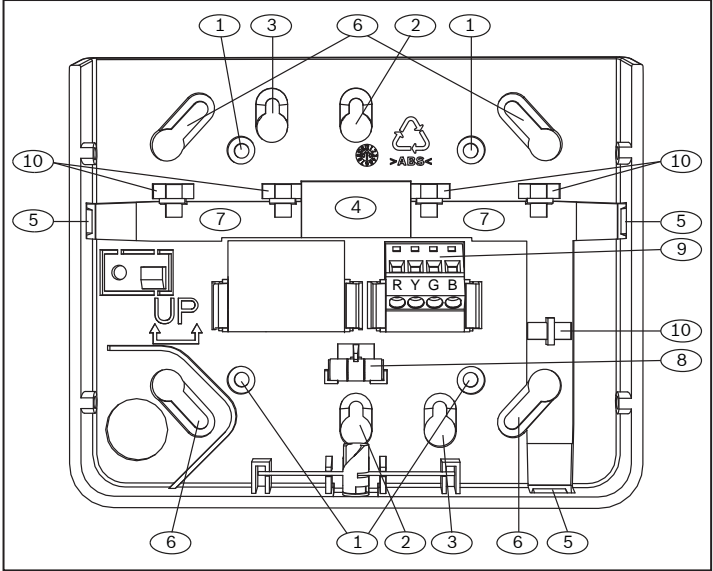

Figure 1.1: Keypad base overview
1. Use the base as a template to mark the desired mounting surface. Refer to *Figure 1.1* for mounting hole and wiring locations.
3. Use the appropriate mounting hardware (supplied) to mount the base to the desired mounting surface. Refer to *Figure 1.1* for mounting hole and wiring locations.